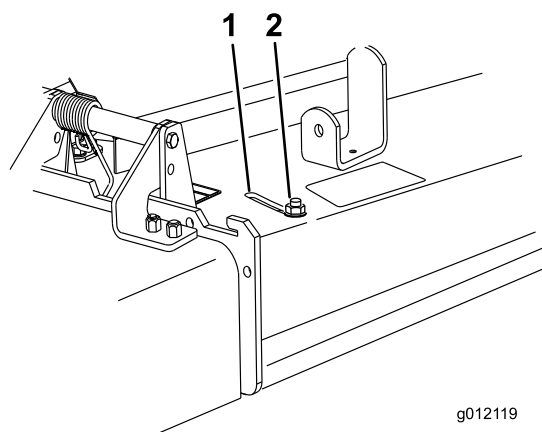

Figure 31
3. To adjust the baffle, loosen the nut (Figure 31).